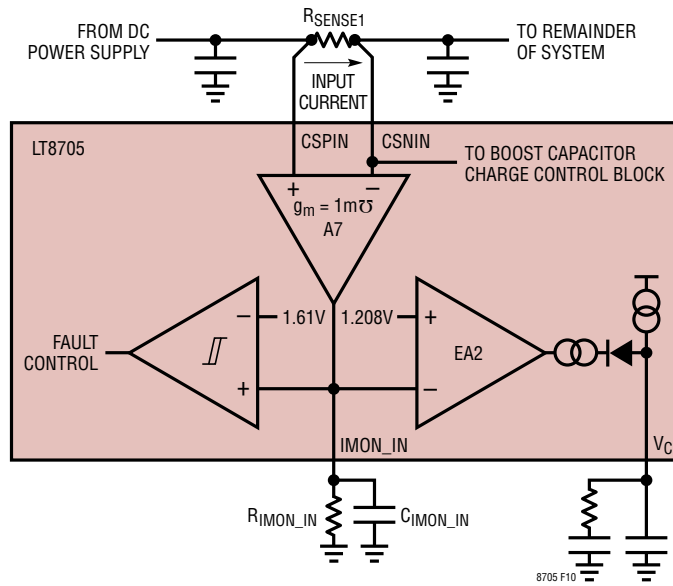

Figure 10. Input Current Monitor and Limit
The LT8705 has independent input and output current monitor circuits that can be used to monitor and/or limit the respective currents. The current monitor circuits work as shown in Figures 10 and 11.
**Current Limiting:** As shown in Figure 10, IMON\_IN voltages exceeding 1.208V (typical) cause the  $V_C$  voltage to reduce, thus limiting the inductor and input currents.  $R_{IMON\_IN}$  can be selected for a desired input current limit using: